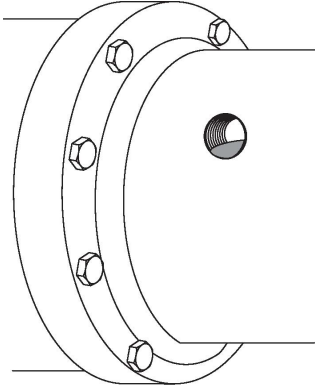

Figure 13
3. Once the oil fill hole is at approximately 60°, the oil should be sitting at the case of the oil fill hole. See Figure 13.